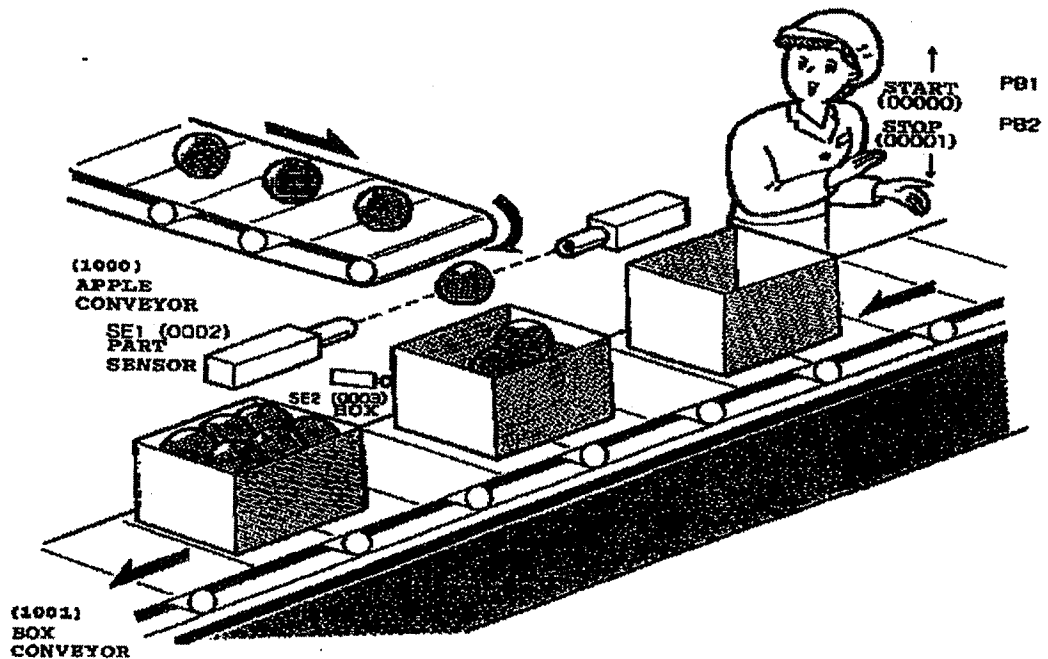

Figure 01
4. Figure 01, given overleaf, shows an automated apple packing system controlled by a PLC.